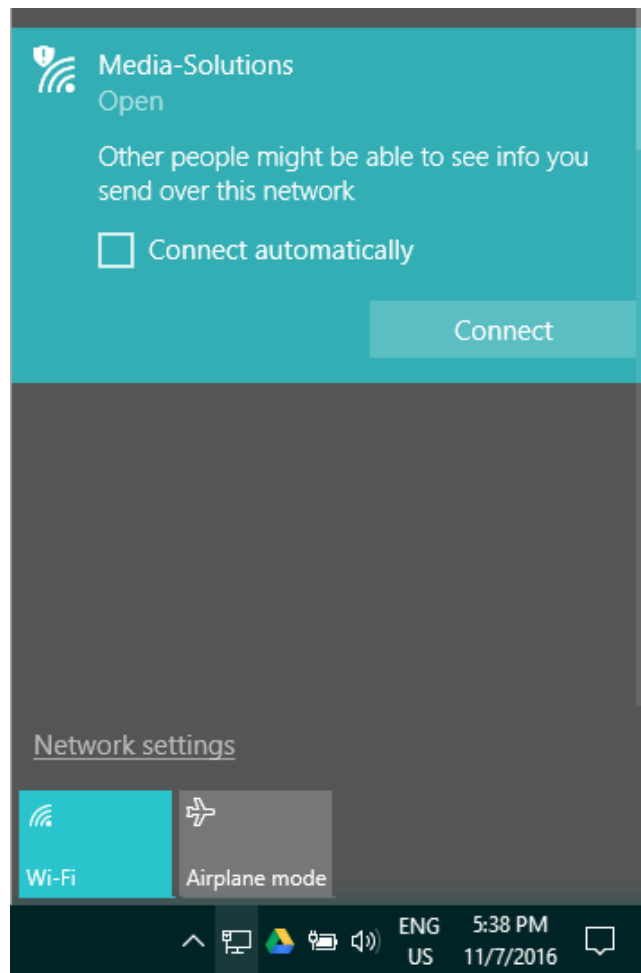

Figure 80: Connecting to the Media-Solutions Network
3. Select the "**Media-Solutions**" network from the list, and tap on the **Connect** button that appears on the screen (see Figure 80 below).